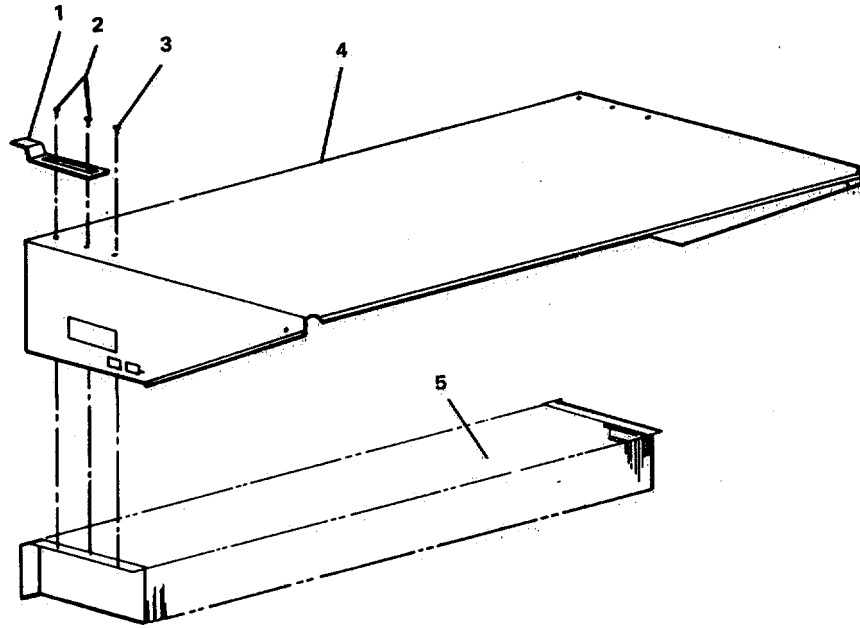

FIGURE 3-76. Repair Refrigerator - Refrigeration Evaporator Coil.
**3-78. Repair R-20 Refrigerator - Refrigeration Evaporator Coil. (Figure 3-76)**